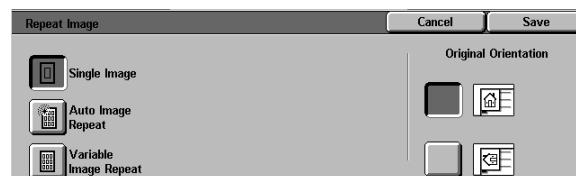

Figure 11: Repeat Image screen
- 1 Touch the **Repeat Image** button on the Output Formats tab to display the Repeat Image screen (Figure 11).
- **Single Image** (default setting, Figure 11)